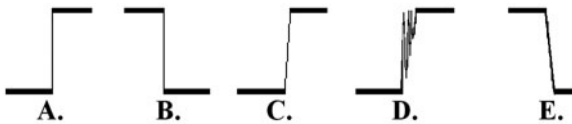

Figure L40-5
- 7b. Which shape in Figure L40-5 best shows a clock signal?